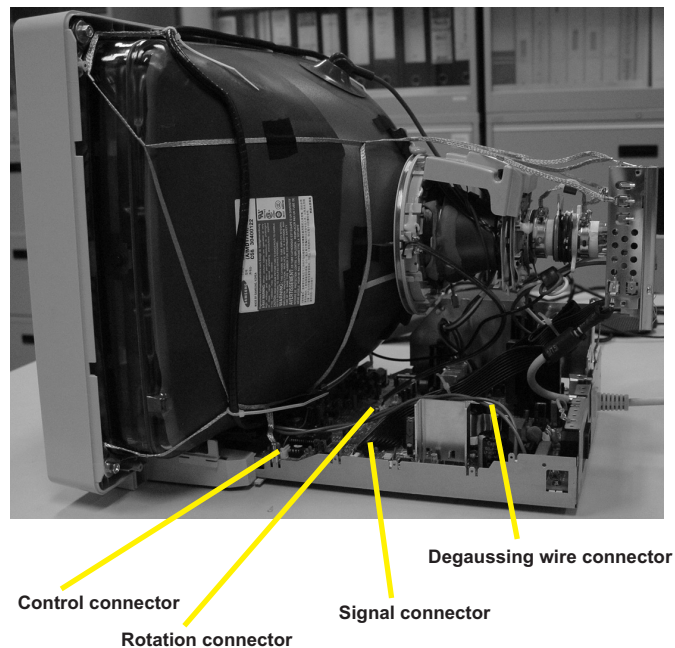

Fig. 4
3. Main board connector in Fig. 4